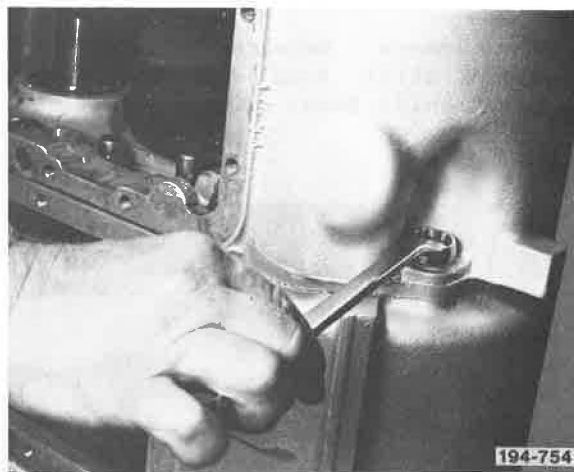

Figure 27. Removing Capscrews
26. Remove the front compound case to main case capscrews, located on the outside of the cases. See Figure 27.